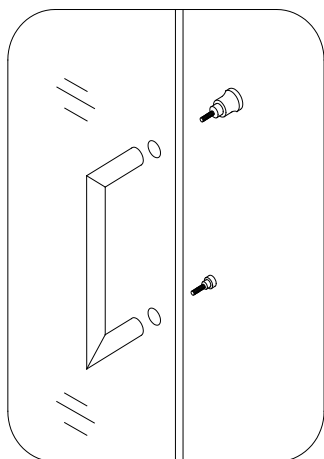

Fig 26
21. Mount the **Handle (#02)** to the **Glass door (#01).** (**Fig 26**)